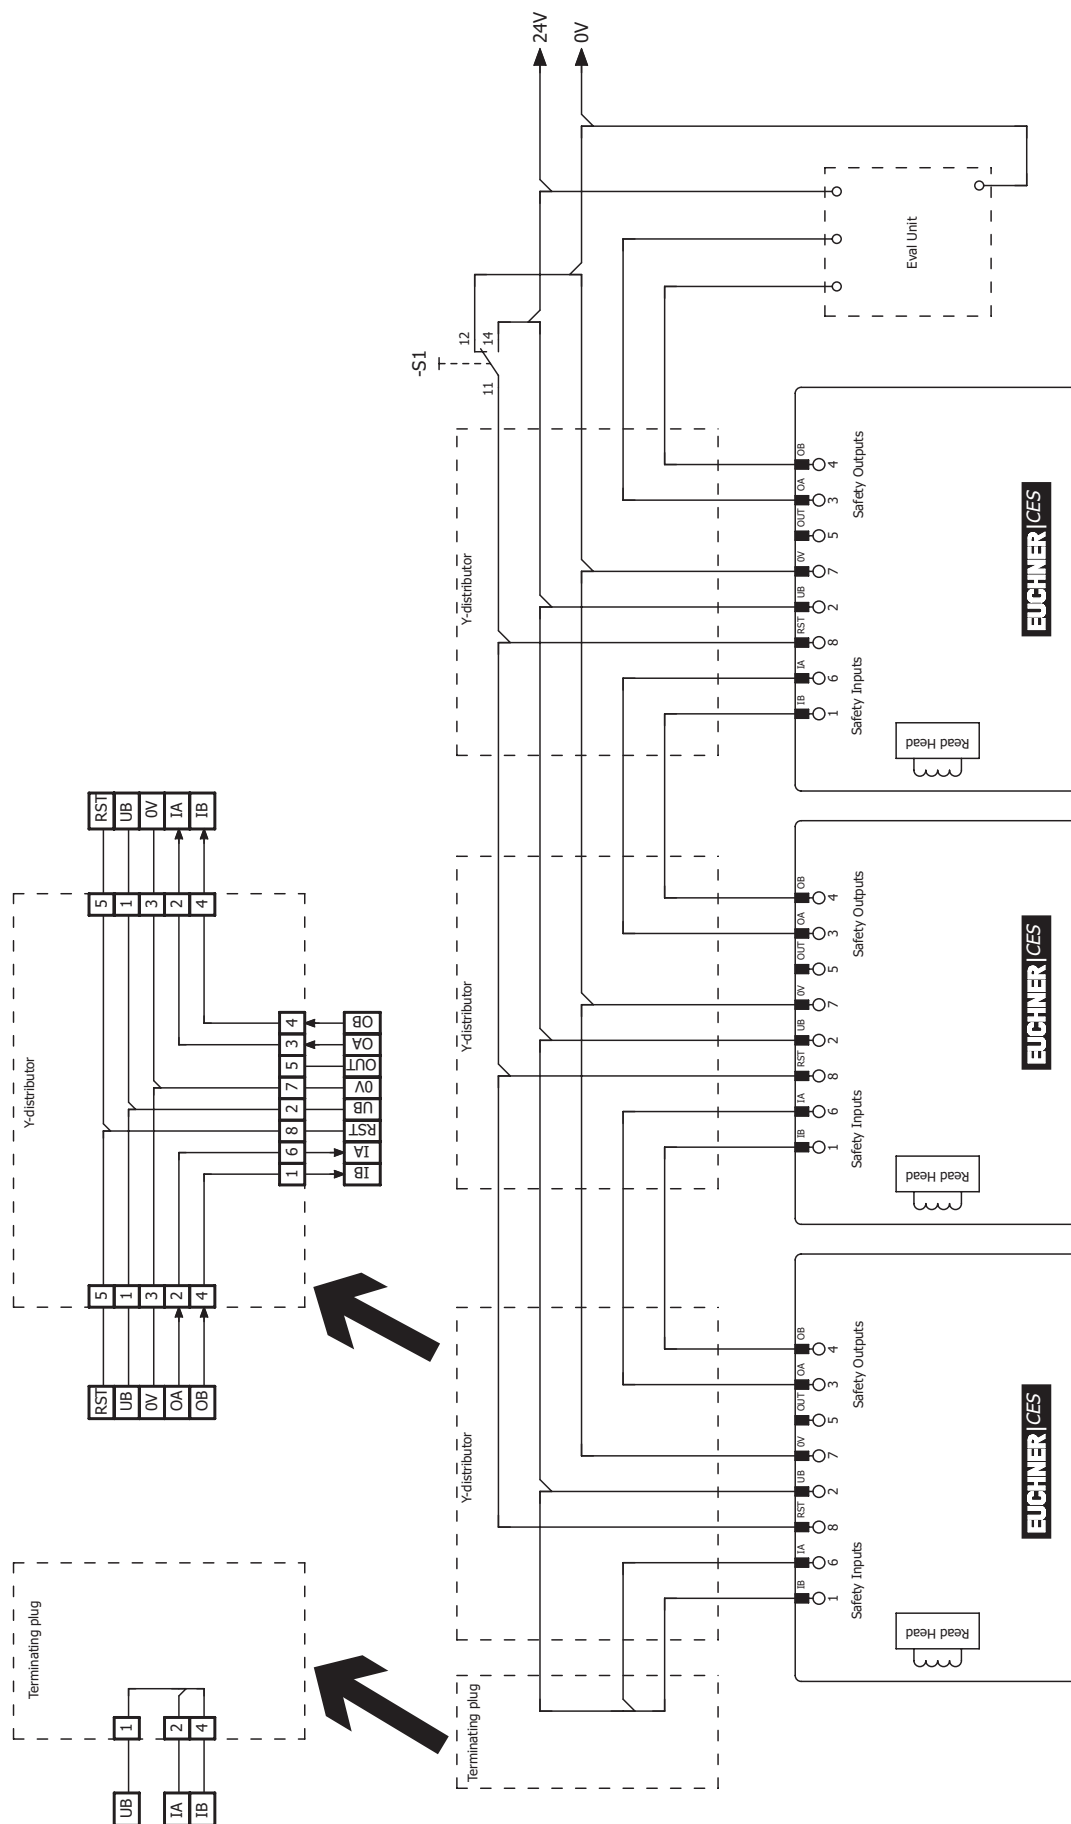

Fig. 5: Connection example for series connection with reset and changeover switch
- A common signal must be used for all switches in the chain. This can be a changeover switch or the output of a control system. A button is not suitable because Reset must always be connected to GND during operation (see switch S11 in Figure 5).